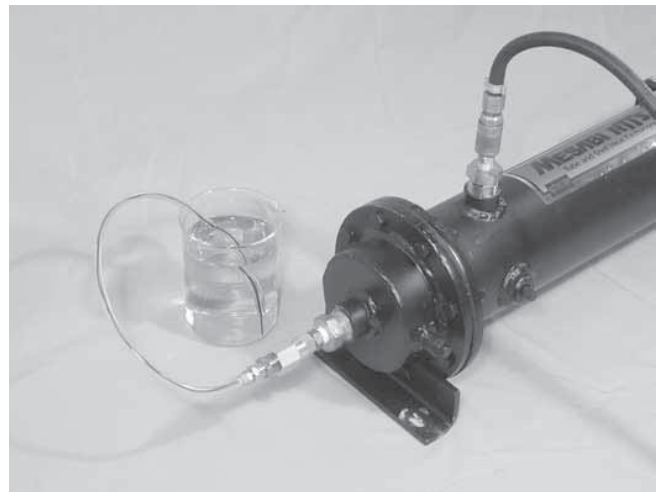

Fig. 11
3. Following successful tube side testing, install the bleed line in one of the end tanks. (see Fig. 11).